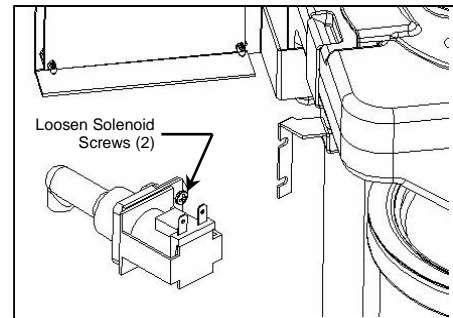

Figure 10
7. Remove the dump solenoid by loosening the two screws that hold it to the bracket assembly. Once the screws have been loosened, the solenoid valve can be removed from the bracket slots (see figure 10).